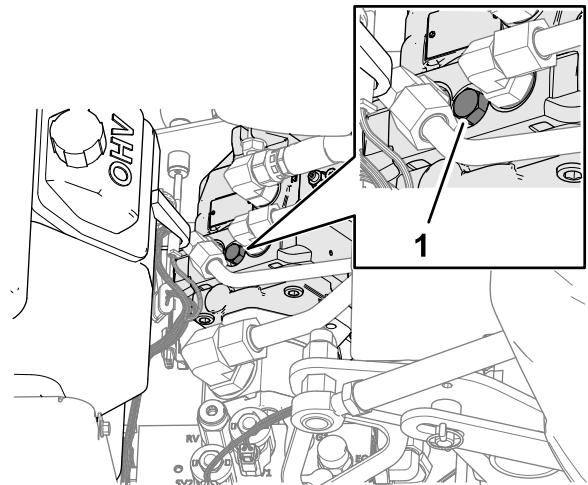

Figure 127
4. Locate the cover for the bypass-valve screw between the engine and hydraulic pump as shown in Figure 127.